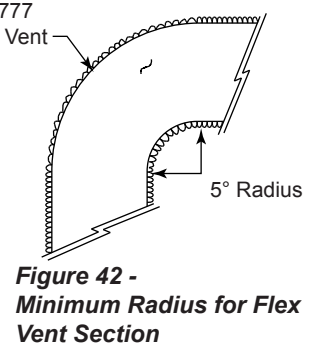

Figure 42 -
3. Do not allow the flexible vent to bend in radius tighter than 5" (127 mm). *Figure 42*